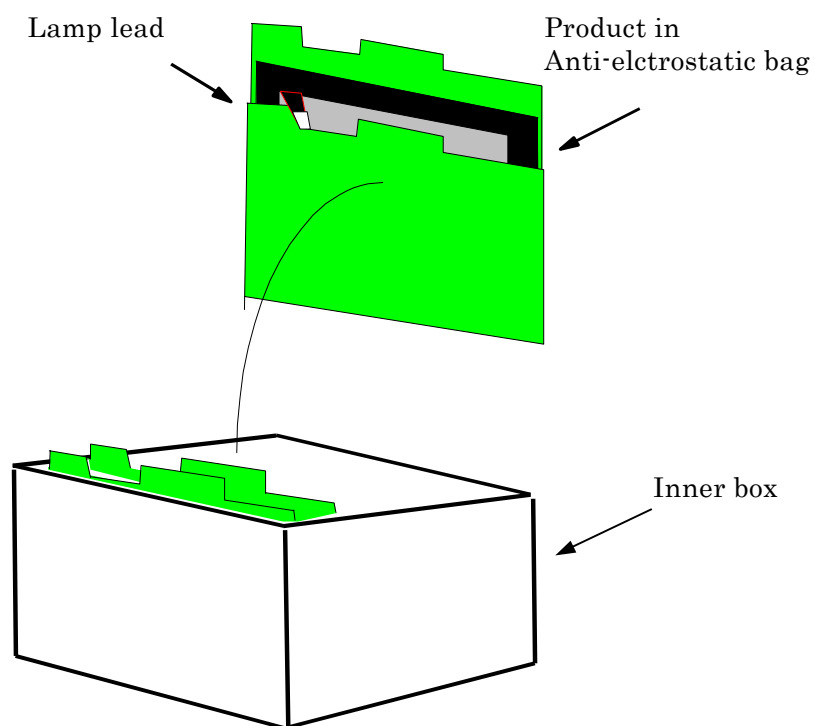

Fig. 8
- Packed LCD module is put in the packaging box.(Fig. 8)